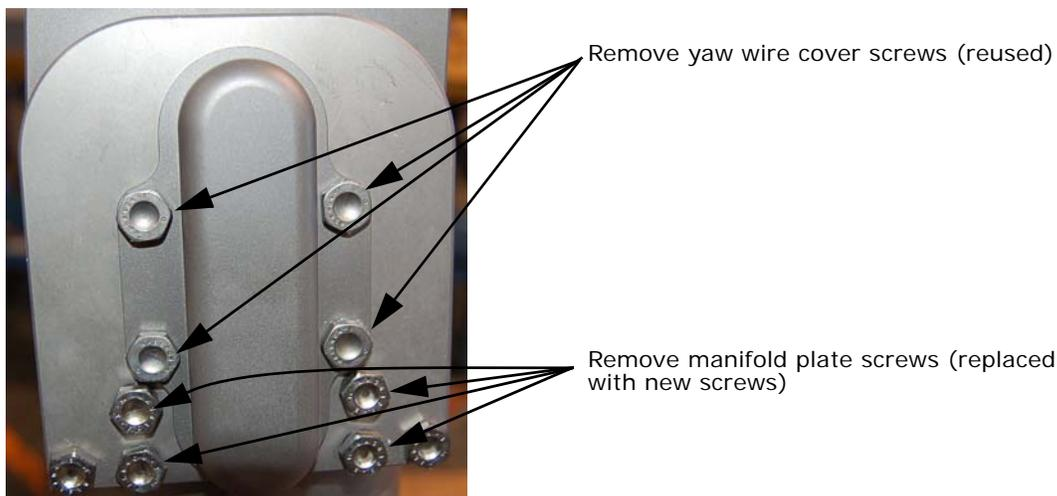

Figure 14 Yaw wire cover plate and manifold plate screws
1. Remove the four wire cover screws securing the top yaw wire cover and save. See Figure 14.